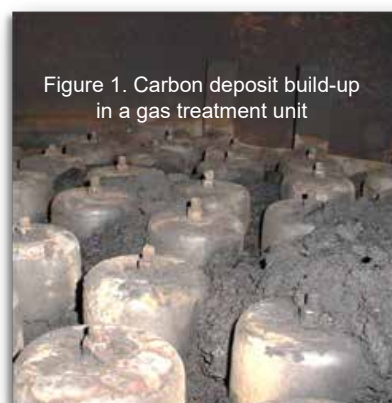

Figure 1. Carbon deposit build-up in a gas treatment unit
- **long term:** hydrocarbon liquids can leave carbon deposits (shown in Figure 1.) that can build up inside the contactor and reduce its efficiency.